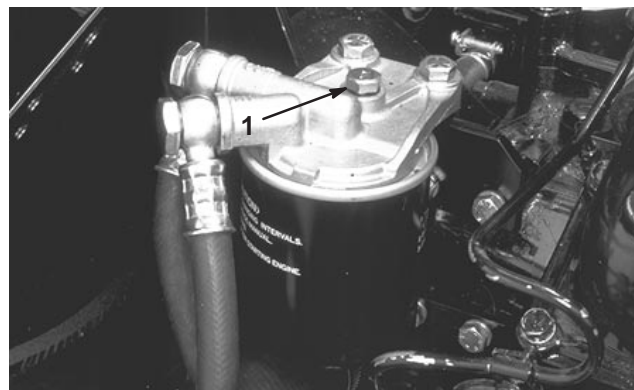

Figure 25
3. Loosen air vent plug on engine fuel filter assembly about 1-1/2 turns (Fig. 25).